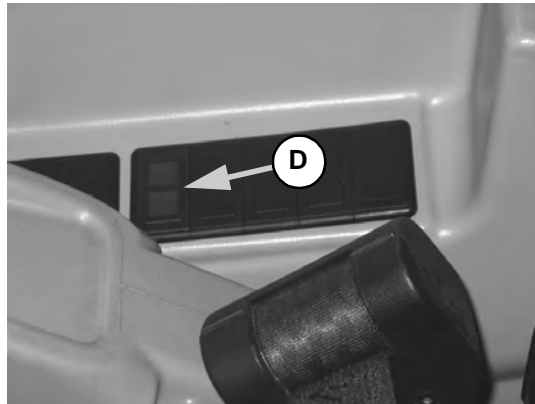

Figure 3-59 Proportional Control Indicator
4. Continue holding thumb switch (C) until the proportional control indicator (D, Figure 3-59) flashes. It will flash once when starting in precision mode; twice when starting in power mode.